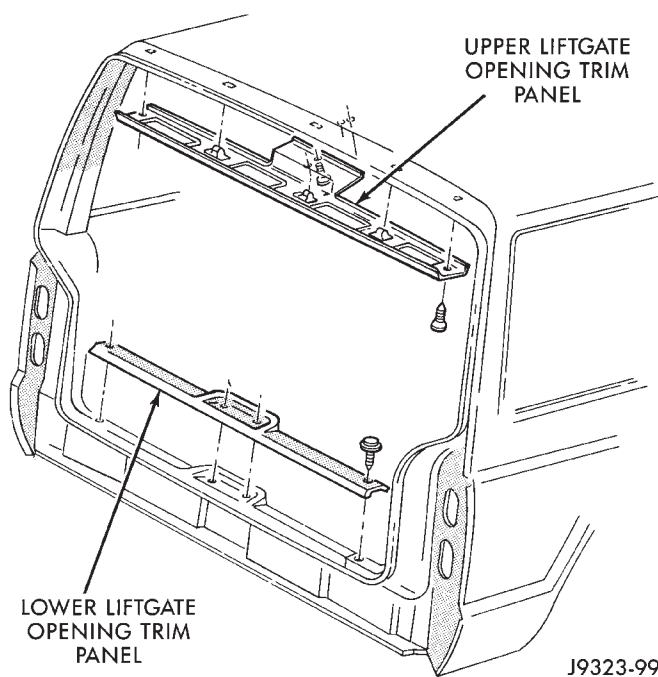

Fig. 23 Liftgate (Headliner) Trim Molding
- (2) Remove upper liftgate trim molding (Fig. 23).
(6) Install liftgate upper trim panel (Fig. 23).